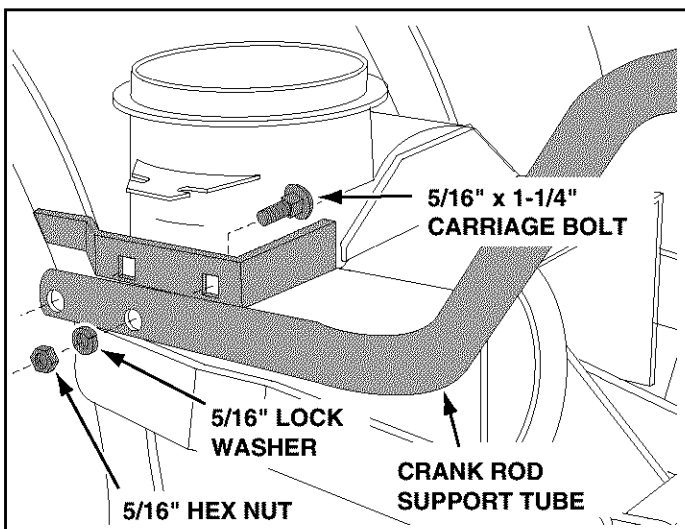

FIGURE 25 LEFT SIDE VIEW
- Assemble the crank rod support tube to the bracket on the left side of the thrower housing using two 5/16" x 1-1/4" carriage bolts, 5/16" lock washers and 5/16" hex nuts. See figure 25.